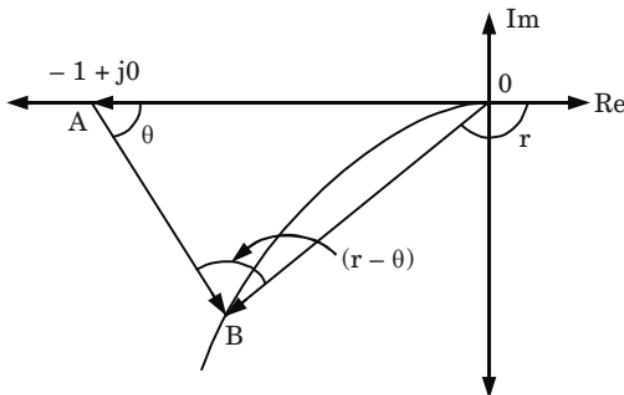

Fig. 25.
3. The polar plot of eq. (2) is shown in Fig. 25.
4. From Fig. 25, $\vec{OB} = G(j\omega)$